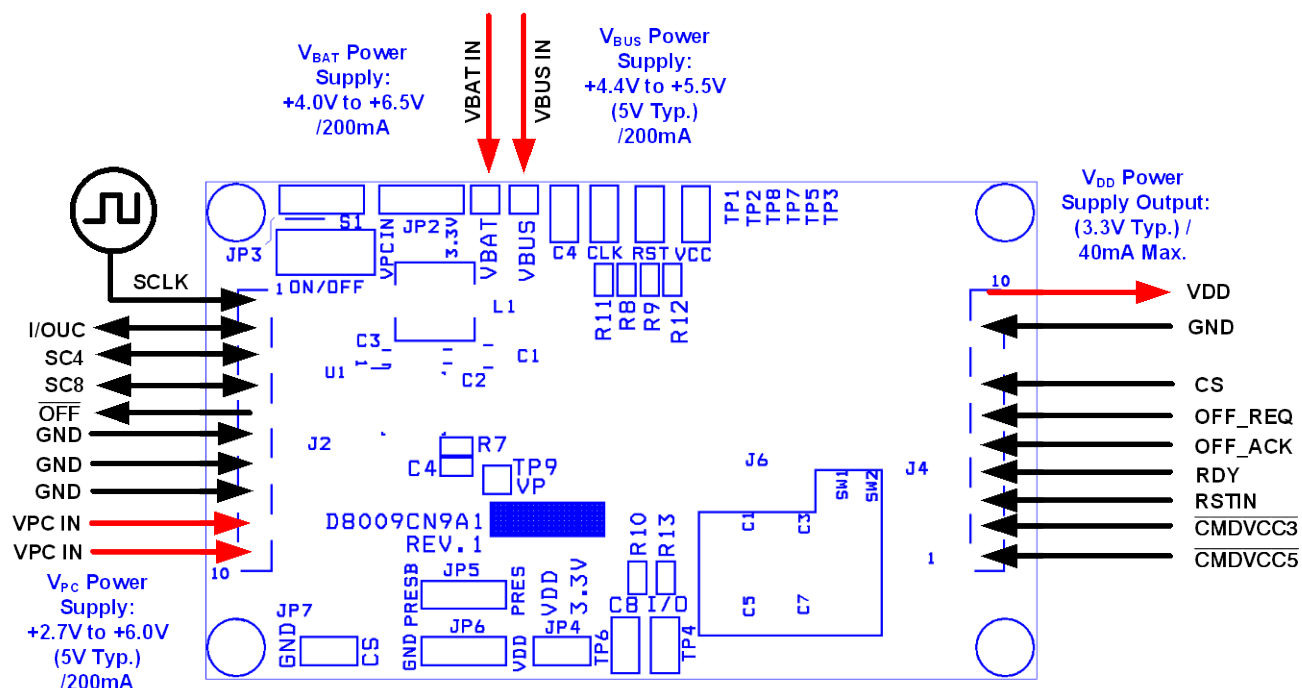
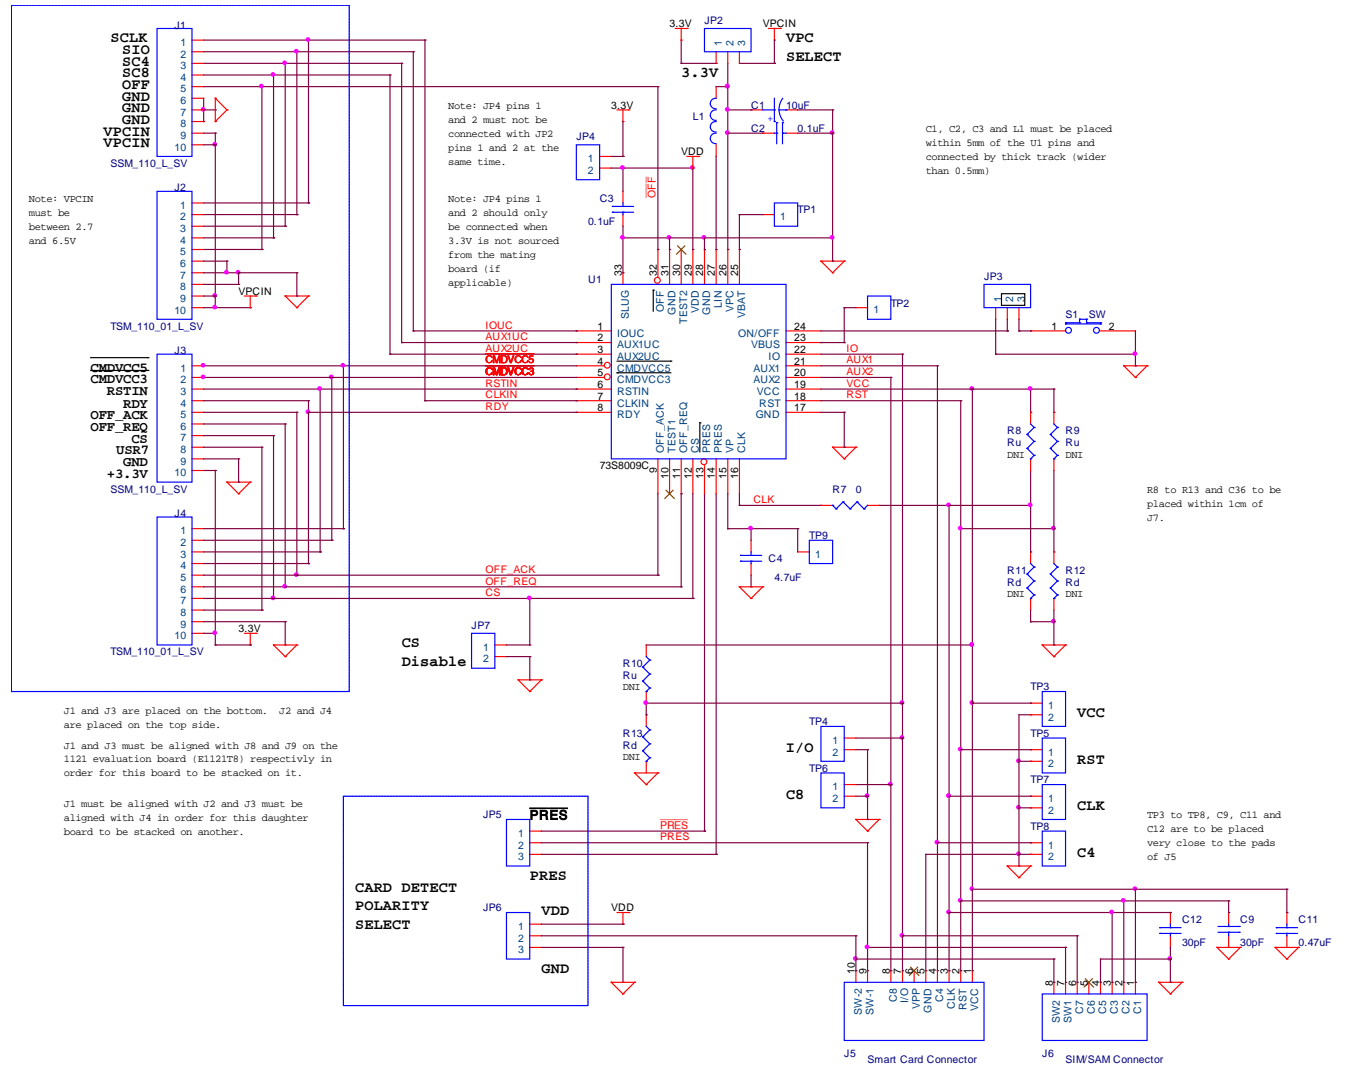

Figure 2: 73S8009C Demo Board External Connectors
Figure 4: 73S8009C Electrical Schematic
This section describes the 73S8009C Demo Board external connectors. All the digital signals and power supply connections are made through 10-pin header connectors labeled J2 and J4 in Figure 2.
- Control signals to the device can be connected through J2 and J4. See Figure 2 and Figure 4.